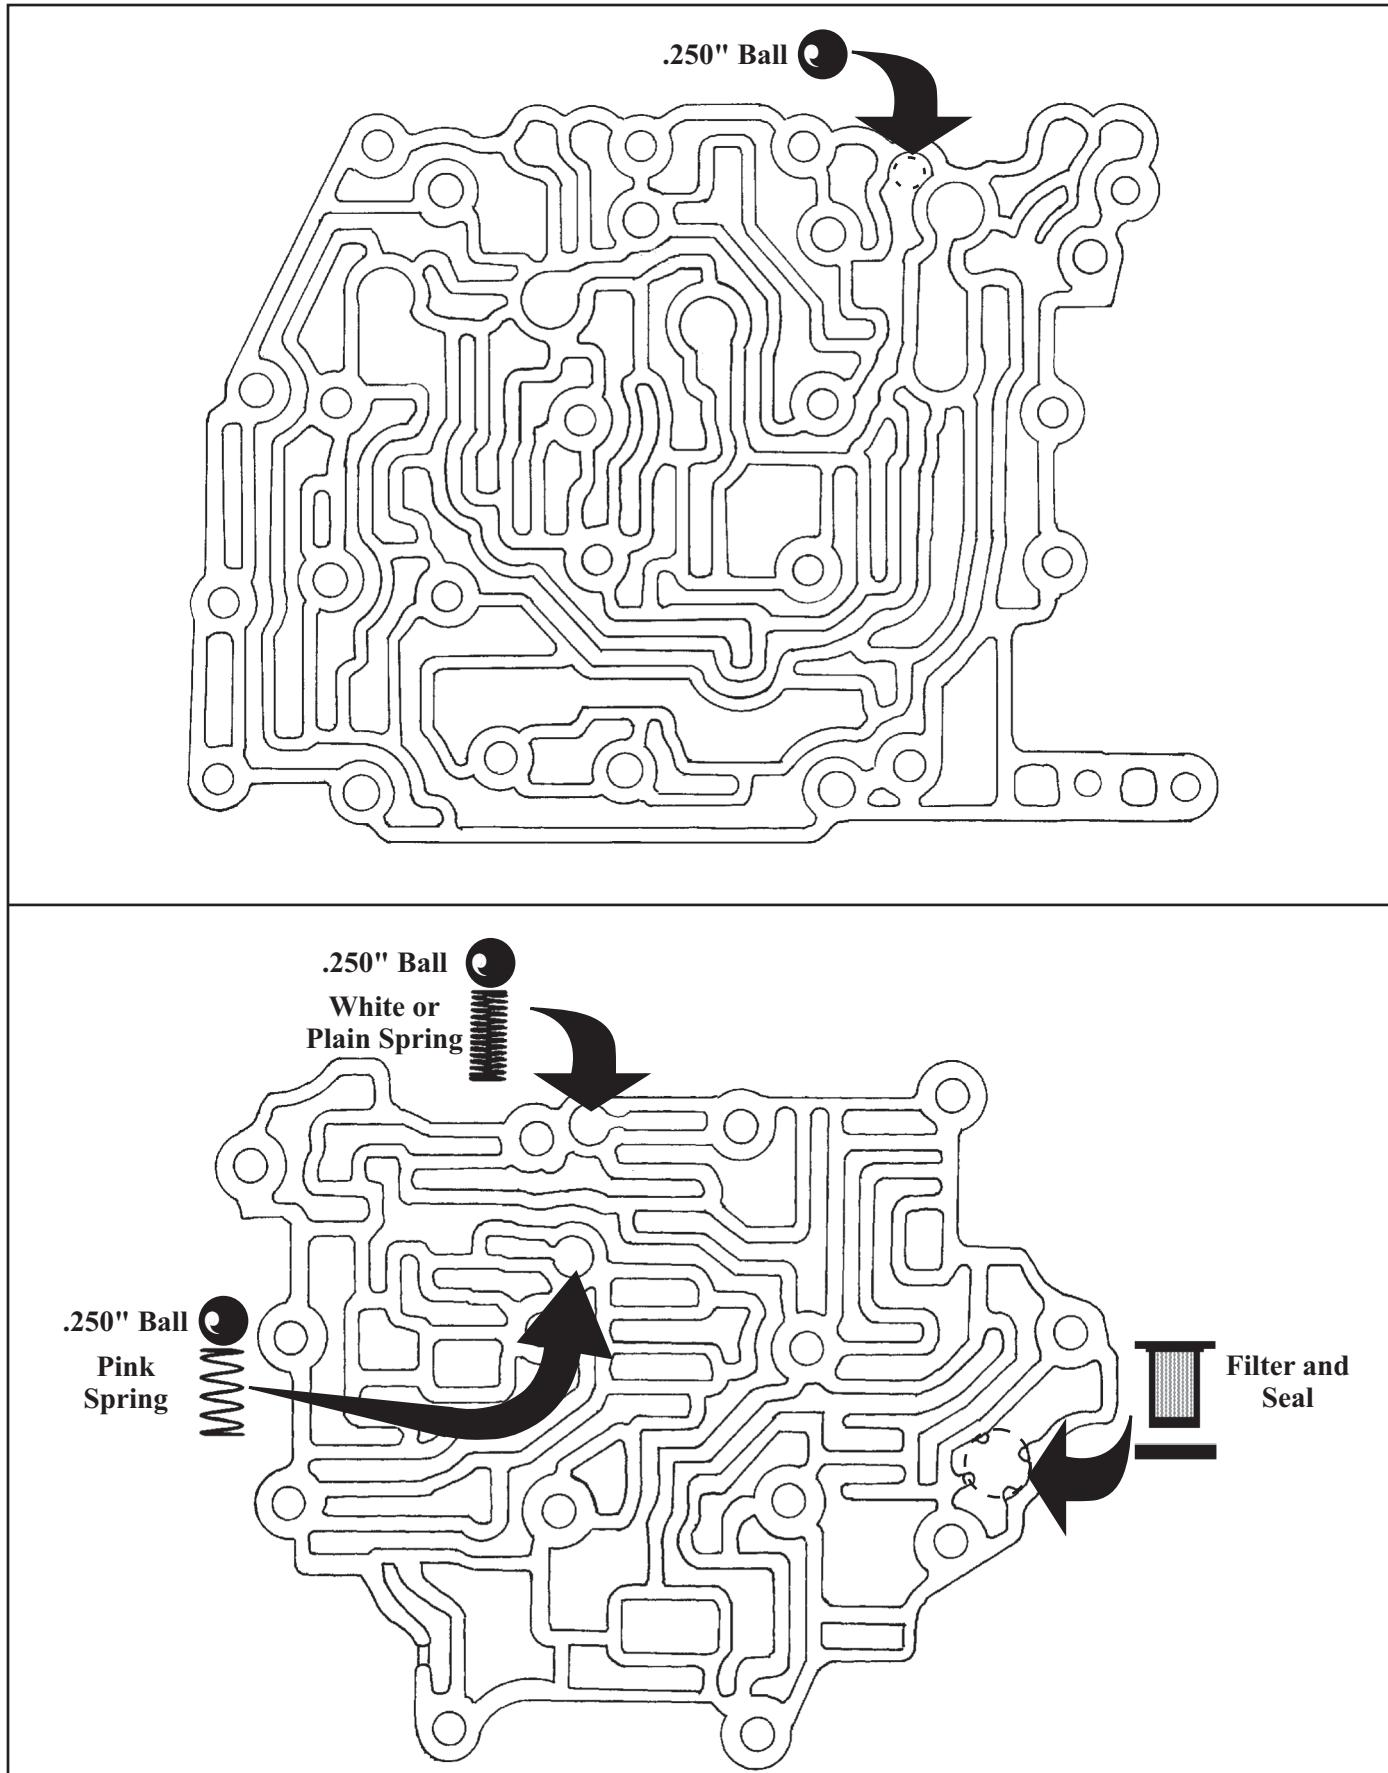

Figure 177
11. Use the illustrations in Figures 177 and 178 to place the check balls and retainers in their proper location.
- NOTE:** Replace the thimble filter seal as shown in Figure 177.